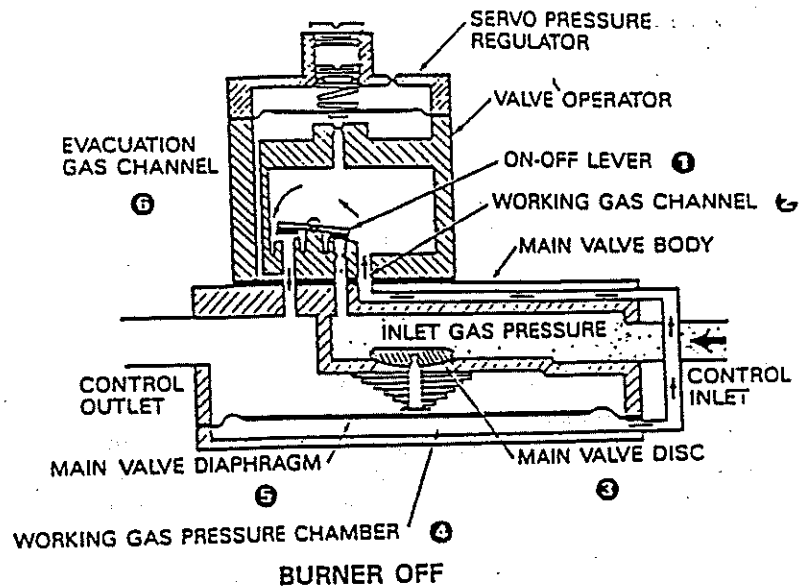

Figure 41
When a pilot flame is established, the igniter/sensor then verifies a pilot flame. This is done using the flame rectification principle described earlier in the text. After a pilot flame has been proven, the ignition control stops generating a spark. At the same time, power is supplied to the main valve servo operator. Gas flows to the main burners and is ignited by the pilot flame. See Figure 41.
The Honeywell VR8440 gas valve operates by the same principle as the White Rogers valve seen previously. Figures 41 and 42 are schematic diagrams which illustrate the theory of operation of the main valve which controls flow of gas to the burner, the on-off cycling function of the valve operator, and the servo pressure regulator method of maintaining the desired outlet pressure to the burner manifold. The basic theory is applicable to all models in the V800 family of combination gas controls.
In Figure 41, the working gas has been discharged, so there is no lifting force being exerted by the diaphragm on the valve disc assembly. The valve closing spring has firmly seated the valve disc, blocking flow of gas to the burner.
In Figure 41, the burner in the OFF position, note that the right-hand port is closed, blocking the flow of gas into the working gas channel ② from the control inlet. Also, the evacuation gas channel ⑥ to the control outlet is open. This permits the escape of working gas from the pressure chamber ④. With the loss of working gas pressure, the main valve is closed.